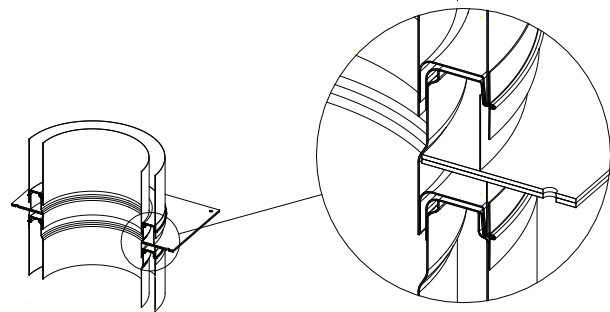

Figure 20 - Length Anchor Plate (APL)
1. Use for same application as the anchor plate (AP).
2. It is composed of a straight section - with an effective length of 3 3/4" integrated into a support plate (see **figure 20** for the detail of the part).
3. Unlike the anchor plate (AP), the Length Anchor Plate (APL) doesn't need any clamp flange (and its hardware) for its installation, so it is easier and faster to install.